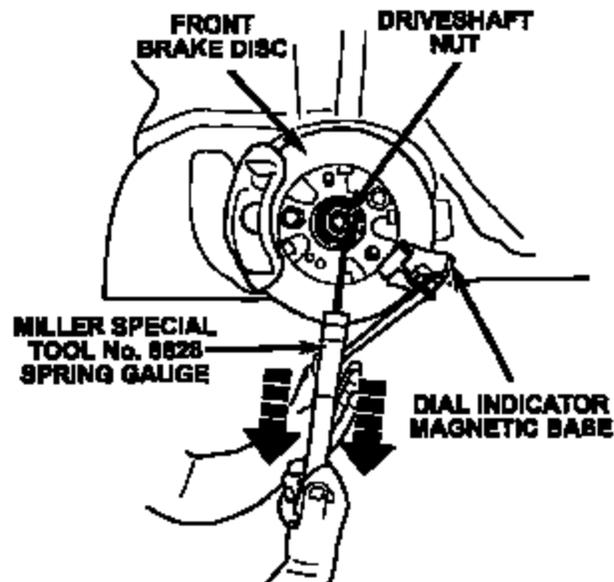

Figure 4
11. Place the hook of the spring gauge (Miller Tool #8828) on the drive shaft nut (Figure 4).
12. Pull down on the spring gauge until the needle on the spring gauge reads 33 lbs. (15 kg) and zero the dial indicator (Figure 4). Then slowly release the spring gauge.